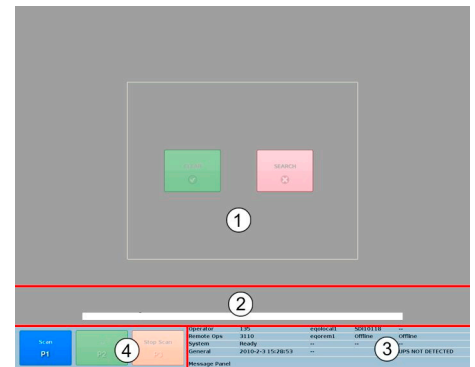
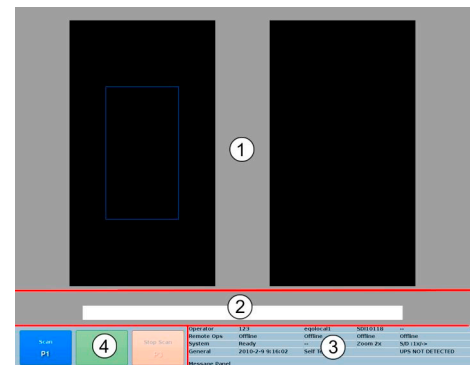

Fig. 18: Main screen with button signs
Fig. 19: Main screen with live image
To charge a headset, just dock the charge cradle (B) to the rack charger (D), as shown in Fig. 19, and place the headset into the charge cradle.
Depending on the configuration the user login is different and also the viewing window can have a different look. The viewing window either shows a live image of the current data (see Fig. 19) or displays an information screen with two coloured button signs, a red "Search" and a green "Clear" one (see Fig. 18).
Fig. 19 shows the viewing window with the live image of the current data. The screen is split in two frames. The frame on the left side displays the normal (non-zoomed) image, and the other the zoomed image. The zoom factor can be increased / decreased (↔ 36).